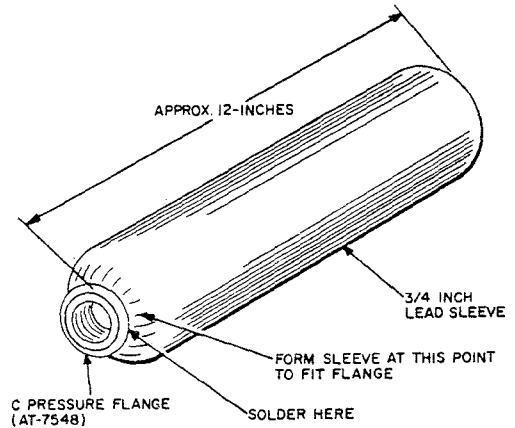

Fig. 5—Lead Sleeve
- (1) Cut a 12-inch long piece of 3/4-inch lead sleeving.
(2) Prepare surface of sleeve for soldering and, with a hammer or other suitable tool, carefully form one end of the sleeve to receive a C pressure flange (AT-7548).
- (3) Solder flange in place (see Fig. 5).